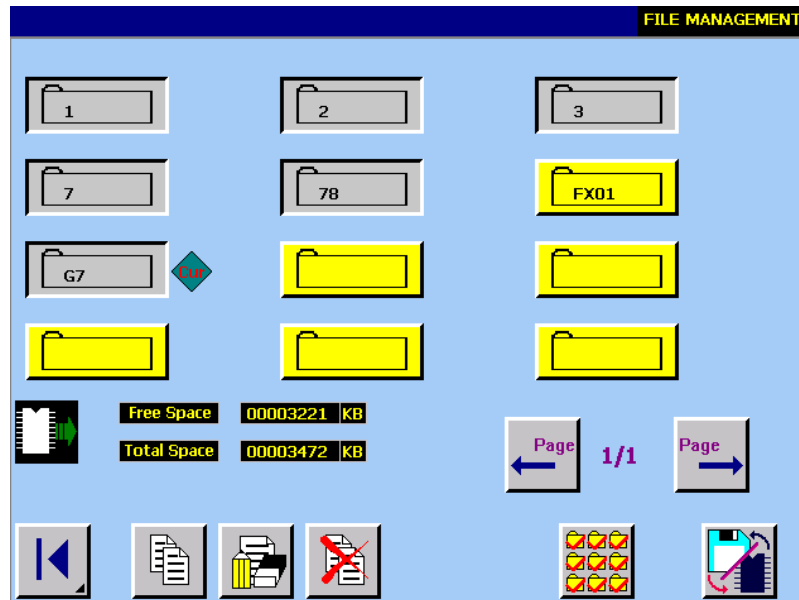

figure 3.12
- 1 Press the file buttons which need to be deleted, it will display as figure 3.12 shown.